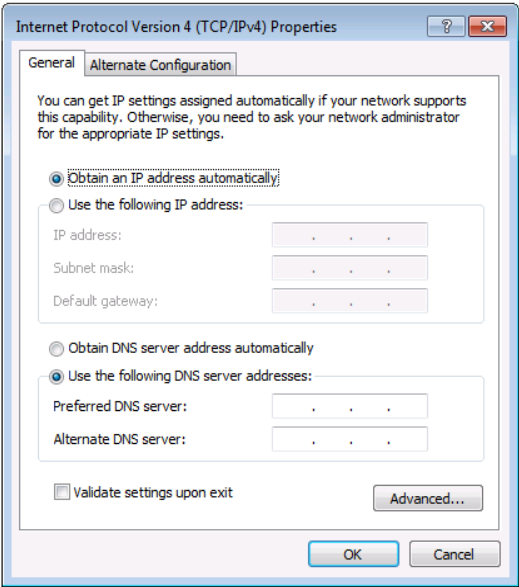
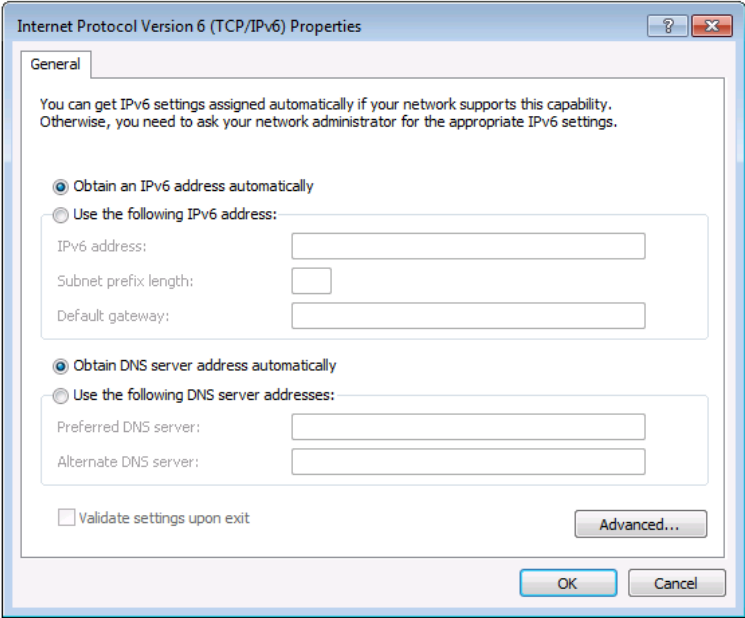

Figure 9: Internet Protocol Version 4 Properties Window
Figure 10: Internet Protocol Version 6 Properties Window
5. Click **Properties**. The Internet Protocol Properties window relevant to your IT system appears as shown in Figure 9 or Figure 10.